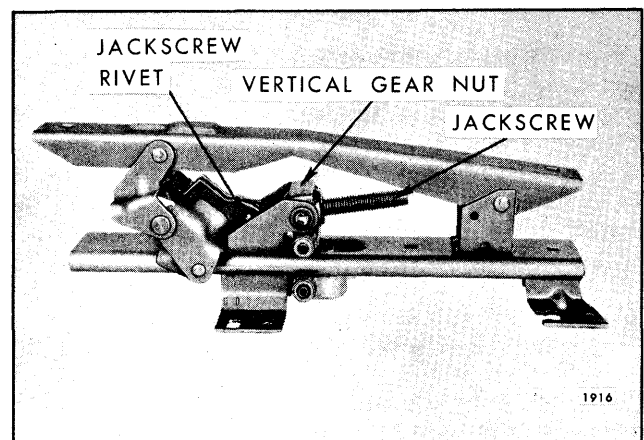

Fig. 10-14—Four-Way Seat Adjuster - "A" Styles
3. As a bench operation, remove jackscrew-to-adjuster linkage attaching rivet and remove jackscrew from adjuster assembly (Fig. 10-14).